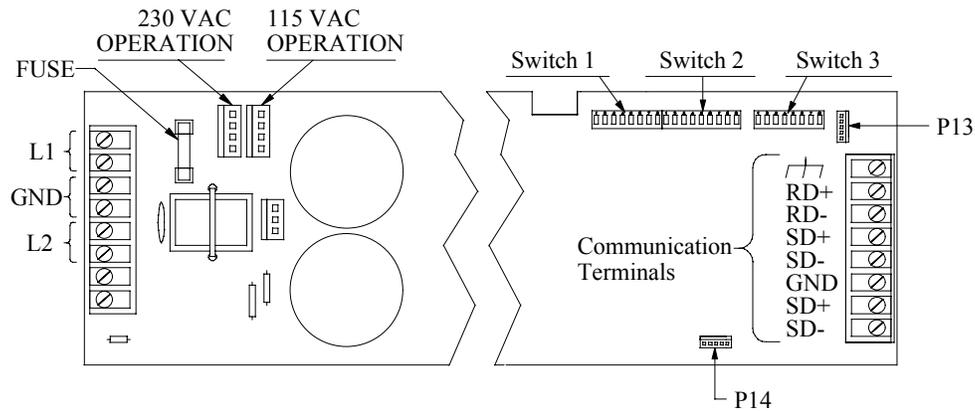

Figure 6. Internal Components
To set the unit up for 230 volt operation, you will need to move the voltage select jumper and change the fuse. Refer to figure 6 for the location of these components. Replacement fuse type can be found in the General Specifications provided in Section 6.
Using a computer, PLC, or other intelligent device to control your PMD 1100/1200/1205 is possible — and the use of this type of control is very flexible. When using computer control, you can use either RS-422 or RS-485 communication format at 1200 or 9600 baud. You also have the option of using UTICOR’s PMD message protocol or ASCII protocol to send the messages to the slave display. The different options you have make the PMD 1100/1200/1205 very accommodating to your needs. Refer to Dip Switch Definitions in this section for information on how to select these options. If you have a multi-line unit and are using RS-485, it will be necessary to remove the jumpers between P13 and P14 when wiring the unit. Refer to figure 6 for the location of P13 and P14.
3. Connect service power to the unit. (For 230 VAC operation, you must move the power input connector and change the fuse first —illustrated in figure 6.)